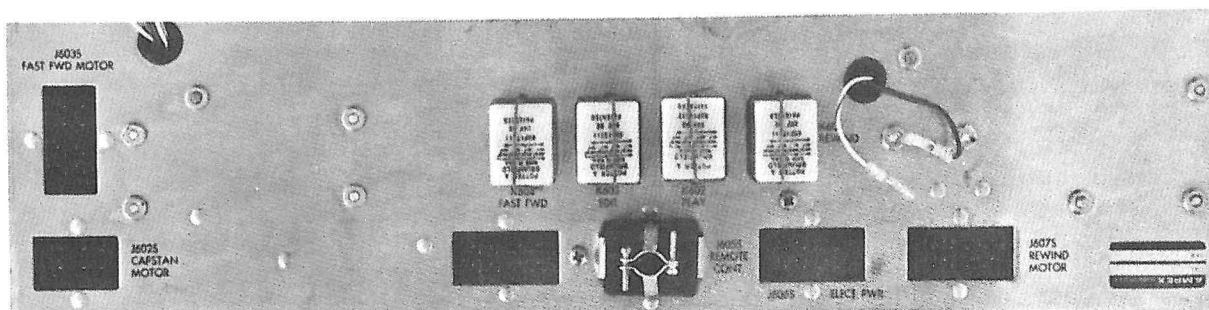

Fig. 2-3. Tape Transport Connector Panel
2.4 INTERCONNECTING UNITS (See Figure 2-3 and 2-4)